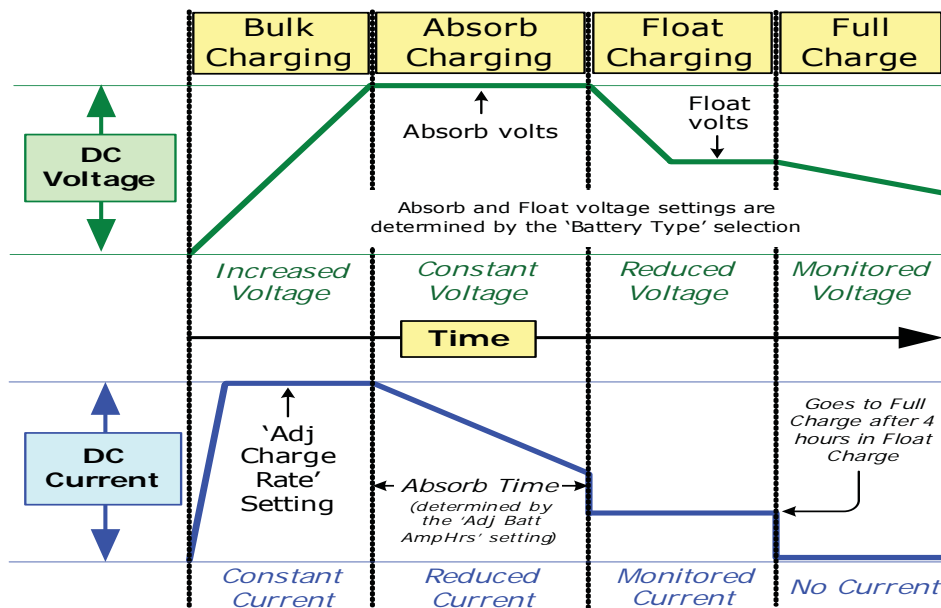

Figure 12, Automatic 4-Stage Charging Graph
The multi-stage charger can use up to five different charging stages to help monitor and keep the batteries healthy. The five stages include an automatic 4-stage charging process (Bulk, Absorb, Float, and Full Charge), and a manual Equalization (EQ) charge stage. The automatic 4-stage charge process provides complete recharging and monitoring of the batteries without damage due to overcharging (see Figure 12). The Equalization stage (requires the ME-RC50 remote) is used to stir up stratified electrolyte and reverse any battery plate sulfation that might have occurred.